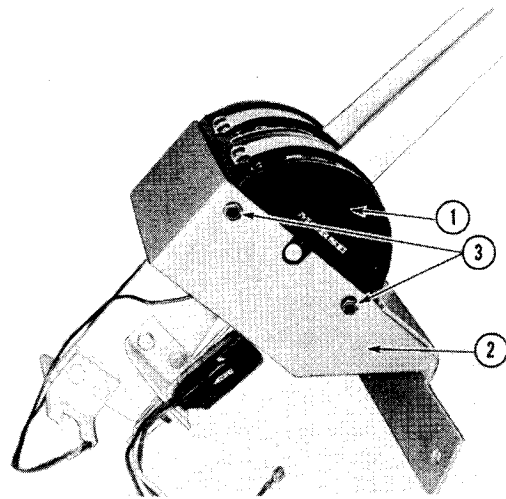

Figure 9-6
Separate control lever assembly (1, Fig. 9-6) from mounting bracket (2) by removing cap screws and lock washers (2).